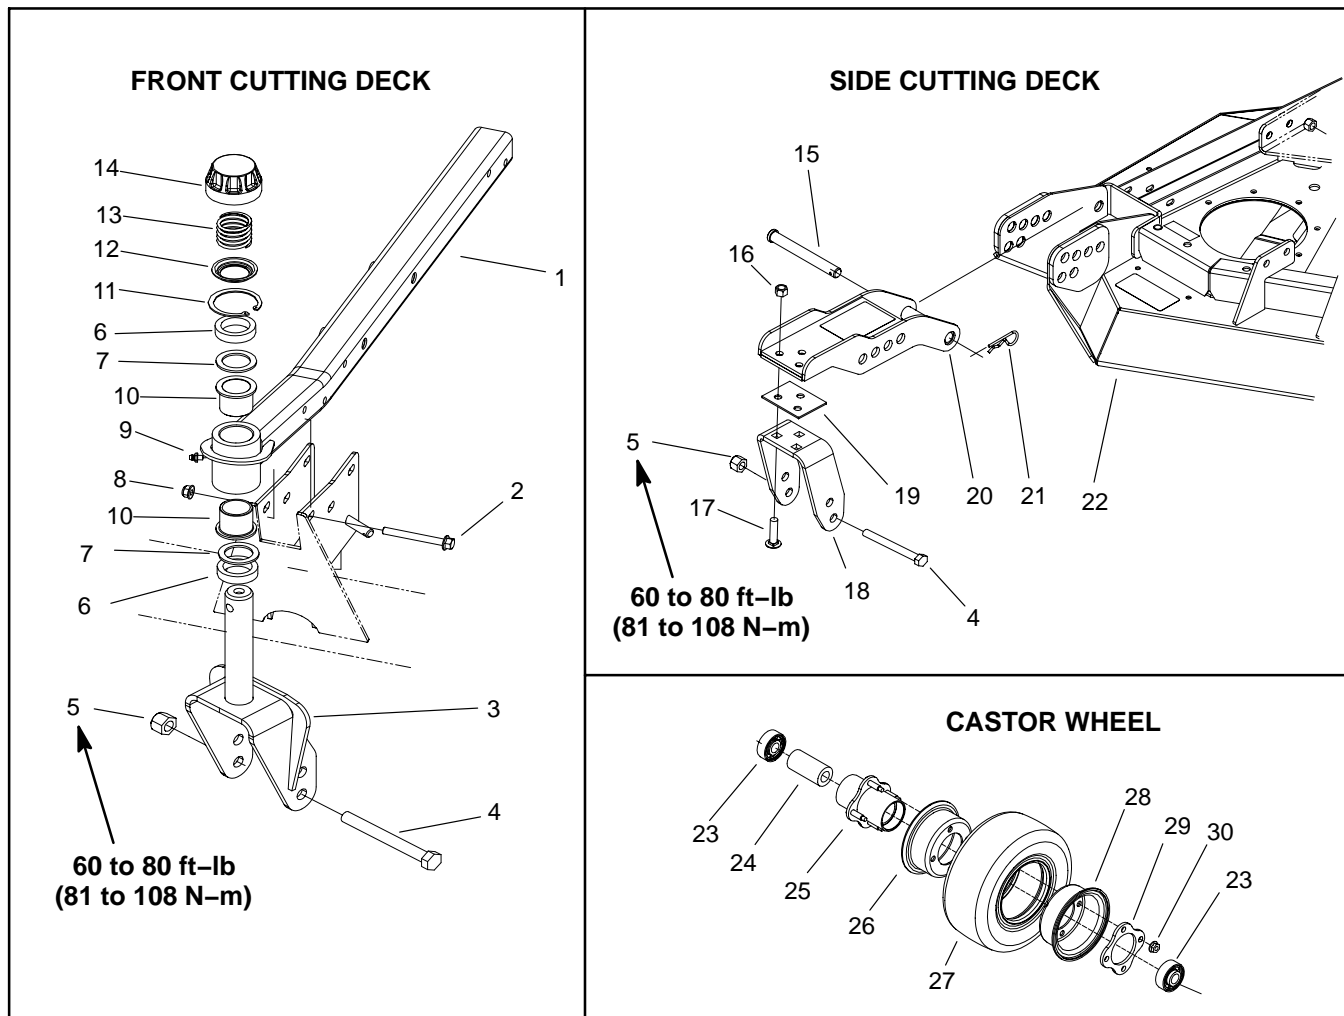

Figure 12
1. Disassemble castor wheel using Figure 12 as a guide.
1. Assemble castor wheel using Figure 12 as a guide.